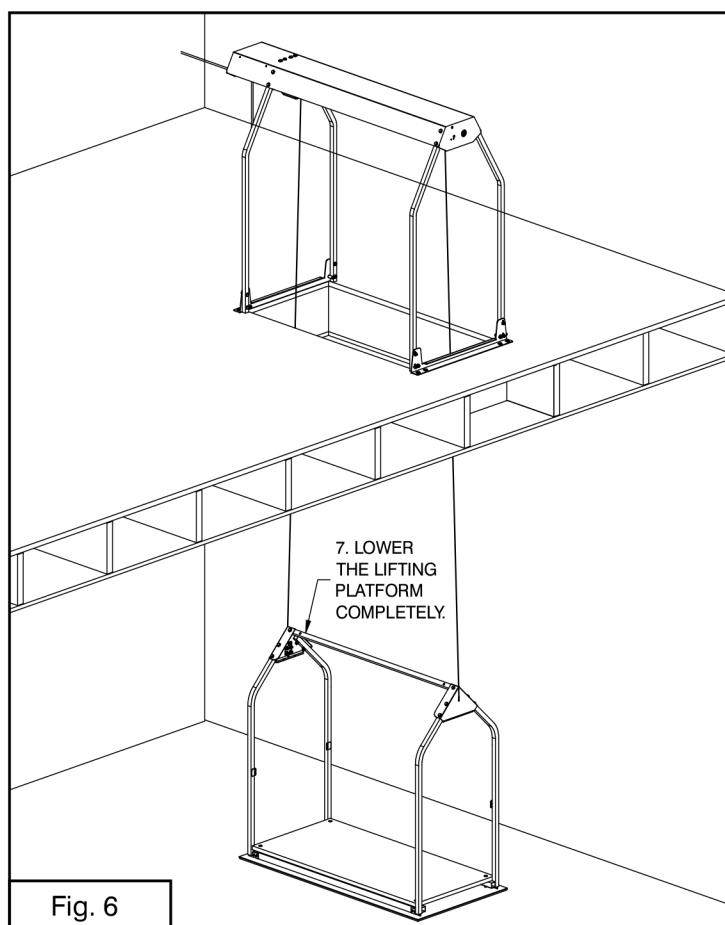

Fig. 6
Step 7. Plug in the lift and lower the platform all the way to the floor below (Fig. 6). Unplug the power cord.